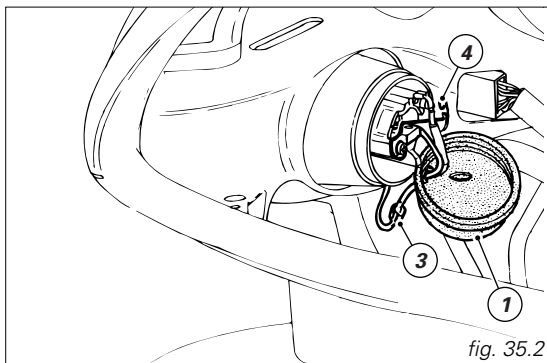

fig. 35.2
**L.h. high beam bulb** (fig. 35.2): disconnect the connector (3) of the white bulb cable from the front wiring, remove the rubber cover (1) from the headlamp body and pull out the bulb cable.
Hook the clip (4, fig. 35.2) to the headlamp holders; reconnect the cables and refit the rubber cover (1, fig. 35.2).